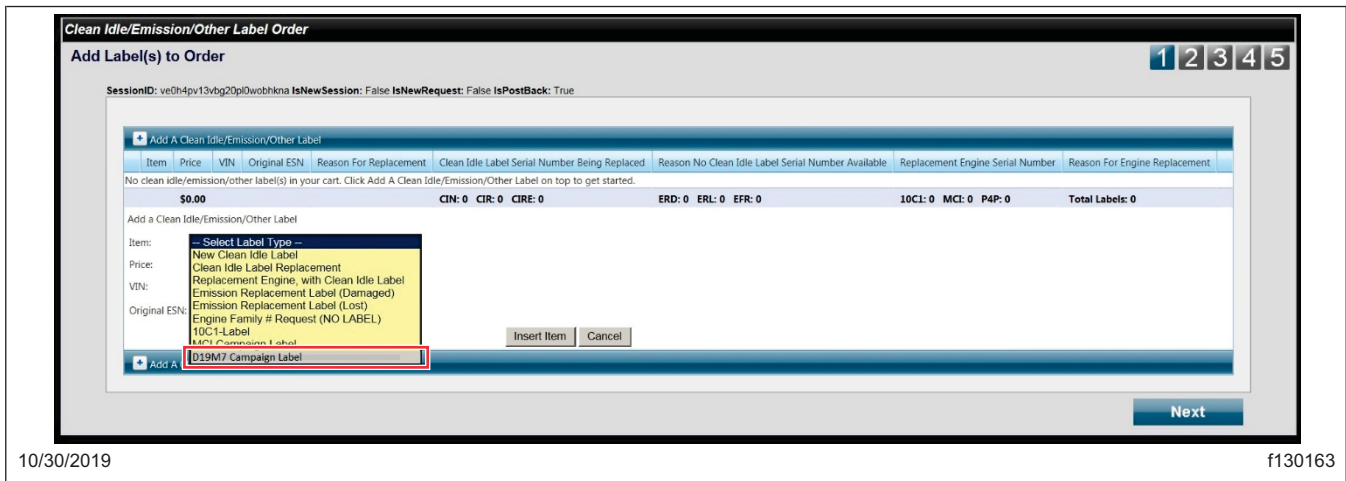

Fig. 11, An Example Shown to Order Campaign Label
- 2.8 Use the item drop-down and select "SF588 Campaign Label". See Fig. 11.